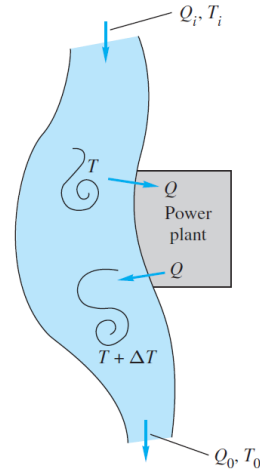

Fig. 3.25
3.25 A power plant on a river, as in Fig. 3.25, must eliminate 55 MW of waste heat to the river. The river conditions upstream are $Q_i = 2.5$ m³/s and $T_i = 18^\circ\text{C}$. The river is 45 m wide and 2.7 m deep. If heat losses to the atmosphere and ground are negligible, estimate the downstream river conditions (Q_0, T_0). *Hint:* The width and depth of the river is regarded constant.